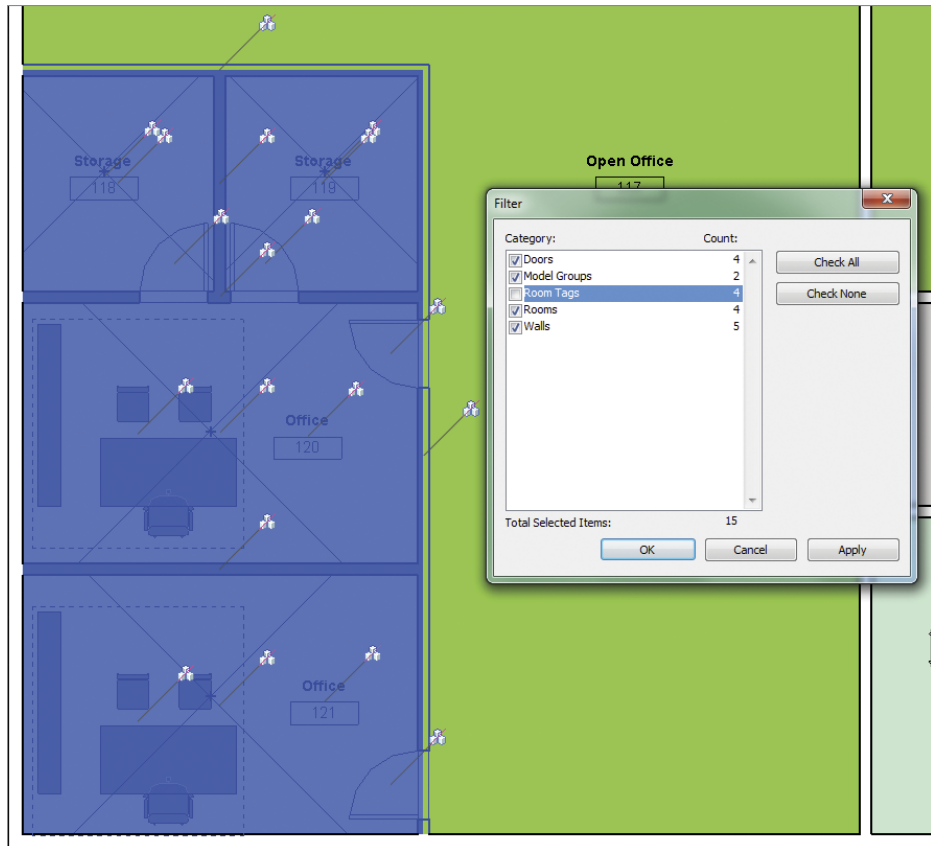

FIGURE 10.9 Element selection and filter
4. Window-select the elements shown in Figure 10.9. While the elements are selected, click the Filter tool from the Selection contextual panel. Uncheck Room Tags and click OK to close the Filter dialog (Figure 10.9).